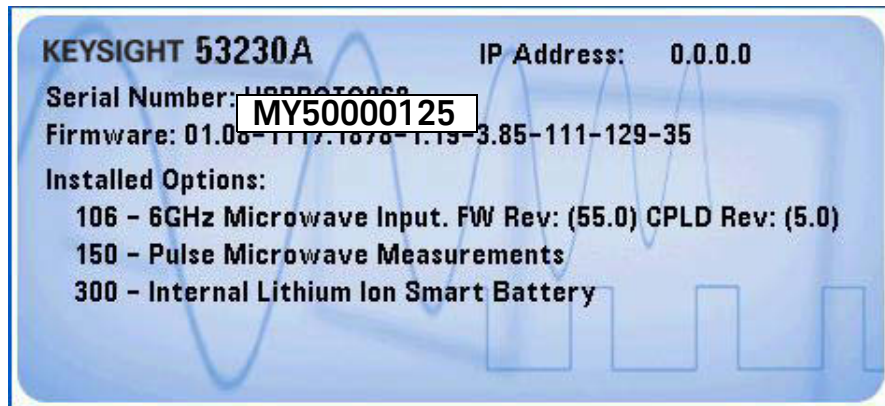

Figure 6-1 Information screen
The serial number prefix for your counter is the first 5 character positions in the serial number shown on the counter (for example: MY50000125). The counter serial number suffix (for example: MY50000125) is the production number of the counter. The whole number (MY50000125) is the actual serial number of the counter. See Figure 6-1.
This guide applies directly to counters with the serial prefixes listed in Table 6-1. (See also Figure 6-1.)
- An information screen (Figure 6-1) is displayed that contains the following items: